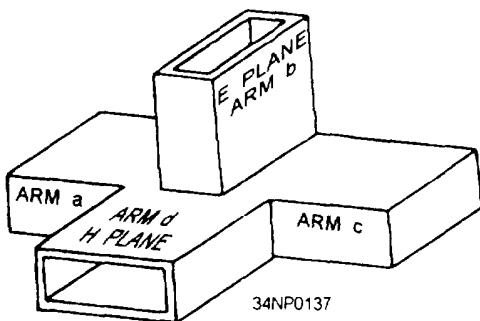

Figure 3-64.—Magic-T hybrid junction.
**MAGIC-T HYBRID JUNCTION.**—A simplified version of the magic-T hybrid junction is shown in figure 3-64. The magic-T is a combination of the H-type and E-type T junctions. The most common application of this type of junction is as the mixer section for microwave radar receivers.